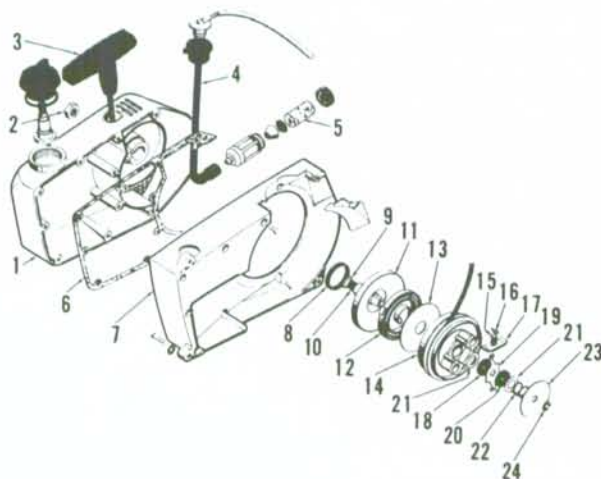

Fig. ST29—Exploded view of typical friction shoe type rewind starter used on some models.
REWIND STARTER. Several different friction shoe type and pawl type rewind starters have been used. Refer to Fig. ST29 for an exploded view of typical friction shoe type starter used on some models and to Figs. ST31 and ST32 for typical pawl type starters used on some models.
On models equipped with starter shown in Fig. ST29, unbolt and remove fan housing (1). Pull starter rope out of housing about 30 cm (12 in.), then pull loop of rope back through rope guide opening and unwind rope from pulley two turns while holding pulley. Allow pulley to slowly unwind to release rewind spring tension. Remove "E" ring (24) while holding thrust washer (23) down to prevent rewind spring from flying out. Carefully remove components from starter housing. If rewind spring (12) is to be removed, use care to prevent spring from unwinding uncontrolled.
When reassembling, be sure rewind spring is wound in housing in clockwise direction starting with outer coil. Be sure that friction washers (18 and 20—Fig. ST29) are positioned on each side of brake lever (19) and that lugs of brake lever point in clockwise direction as shown in Fig. ST30. Wind rope on pulley in clockwise direction as viewed from flywheel side of pulley. Turn pulley one turn clockwise to preload rewind spring, then pull rope through opening in fan housing and install rope handle. When rope is properly tensioned, rope handle should fit snugly against fan housing. When starter rope is fully extended, it should be possible to rotate rope pulley at least another half turn clockwise.